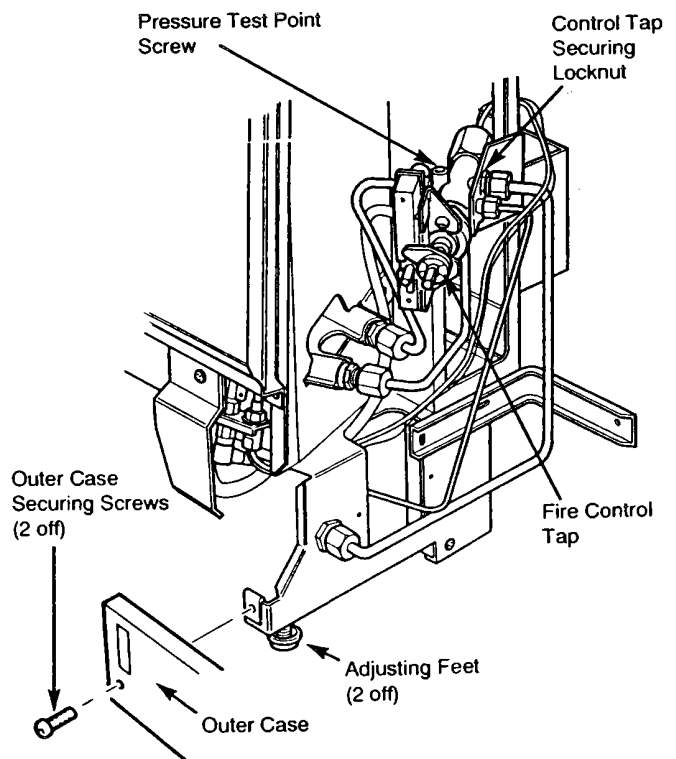

Fig. 6 Commissioning the Fire
2. Locate the fire spigot into the draught diverter on the boiler. Push the fire backwards until the backing plate touches the surround or finished wall face. Adjust the feet to level the fire (Fig.6).
2. On electronic control boilers it will be necessary to remove the input plug from the controls. Push the support plate backwards until it touches the wall surface and tighten the screws to lock the frame in position. Locate the fire spigot into the draught diverter on the boiler. Push the fire backwards until the backing plate touches the finished wall face. Adjust the feet to level the fire (Fig.6).
2. Remove the pressure test point sealing screw and connect a pressure gauge (Fig.6).
- (c) Secure the outercase to the inner case using the two securing screws provided (Fig.6).
- (ii) Remove the 2 outercase securing screws (Fig.6).